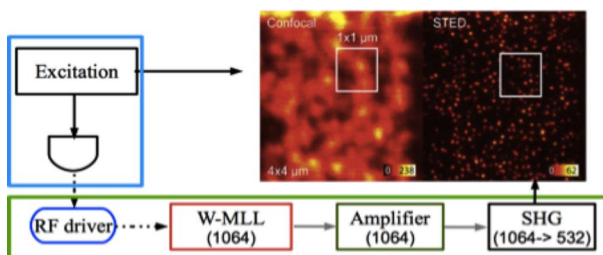

Figure 2. 532nm pulsed depletion laser design, expected to yield images with less than 100 nm resolution.
To achieve synchronization, a fraction of the excitation laser power is fed to a photo detector. The radiofrequency (RF) output of the detector is then fed to an appropriate driving circuit to generate appropriate electronic pulse that can drive the next module, which is an actively mode locked laser (MLL). The MLL produces sub-nano second optical pulses of 1064 nm wavelengths in synchronization with excitation laser, which are amplified and converted to 532 nm pulses using a second harmonic generation (SHG) crystal. This is shown schematically in Figure 2.